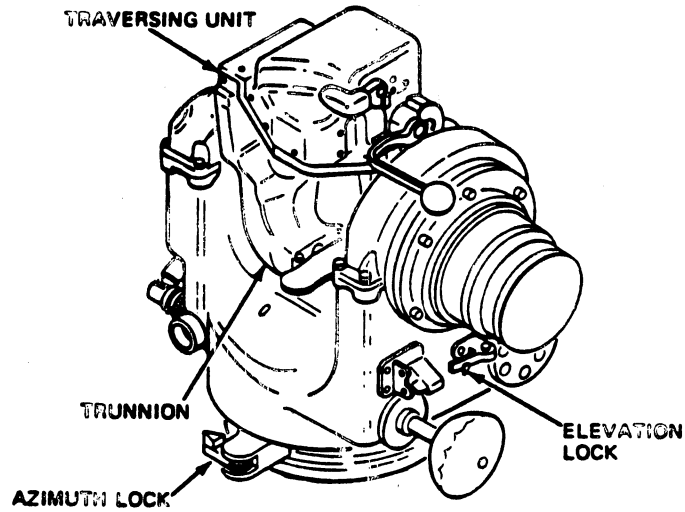

Fig 4-2. Traversing unit.
Step 2. Ensure that the azimuth lock and elevation lock on the traversing unit are in the LOCK/LOCKED position (fig 4-2).